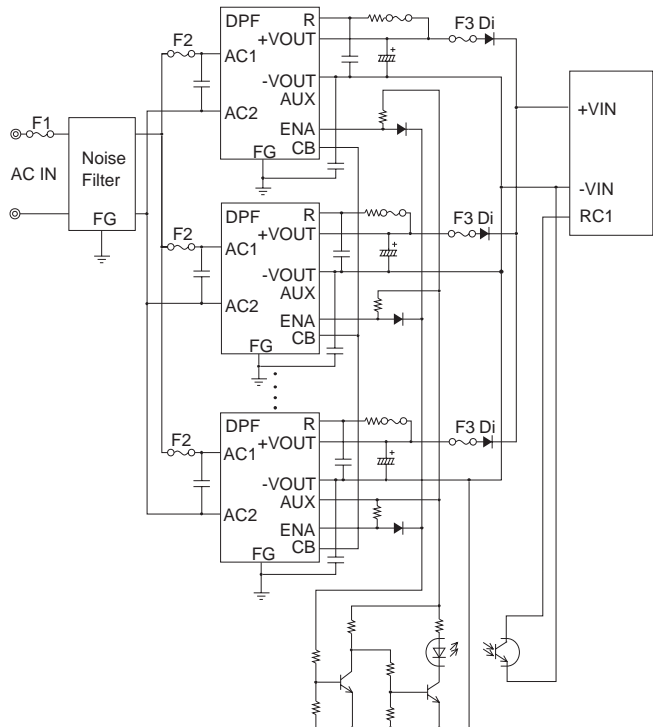

Fig.5.1 Parallel operation
- Parallel operation is available by connecting the units as shown in Fig.5.1.